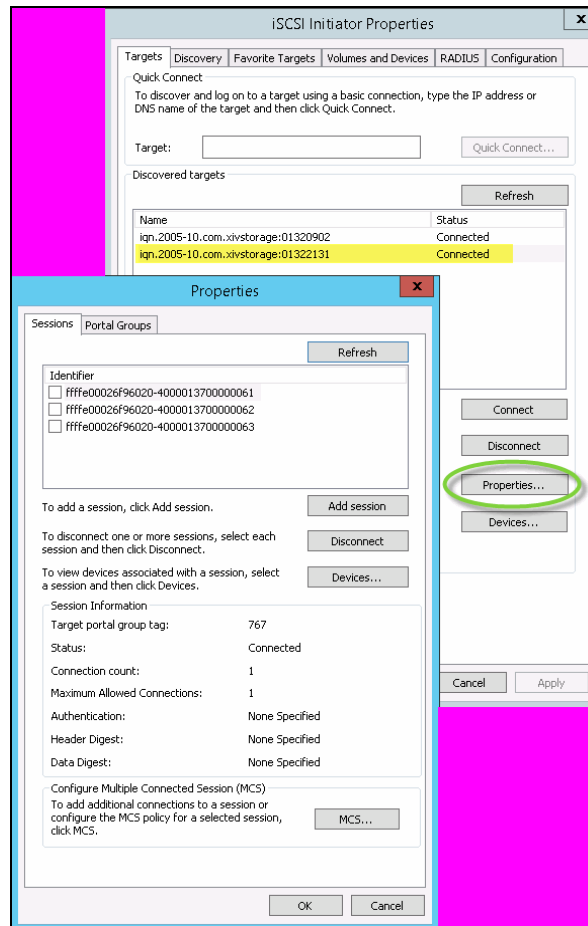

Figure 3-21 Target connection details
11. View the iSCSI sessions by clicking the **Targets** tab, highlighting the target, and clicking **Properties**. Verify the sessions of the connection, as shown in Figure 3-21.